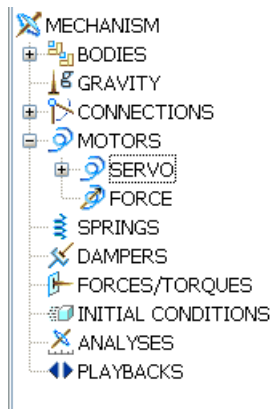

Figure 1
- a) Click **Mechanism > Servo Motors**. The **Servo Motors** dialog box opens as shown in figure 1.